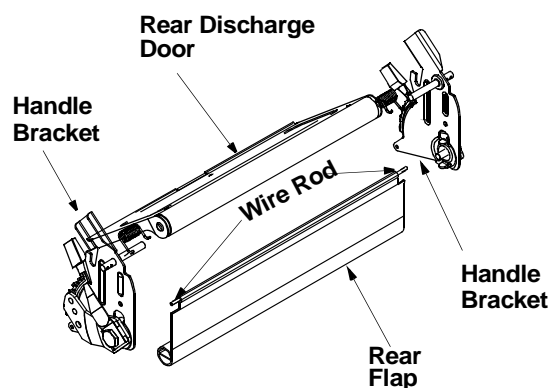

Figure 12
- To remove rear flap, cut off the flat end of the wire rod which secures it to the deck. See Figure 12.